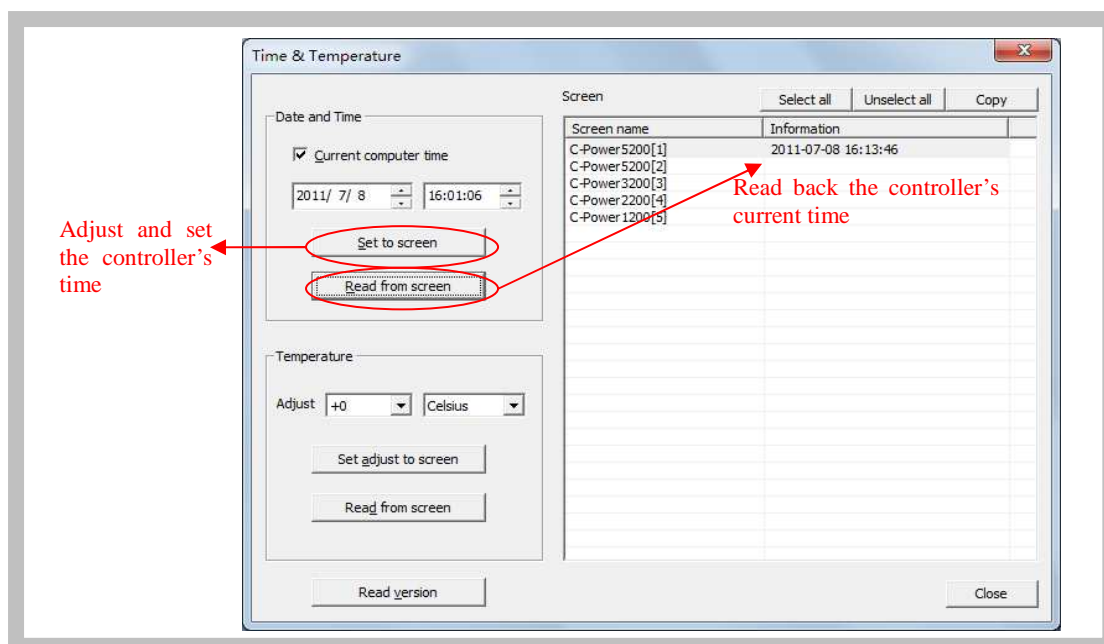

Figure43 Time setting
- 3) Time set and read: as Figure43 shown.